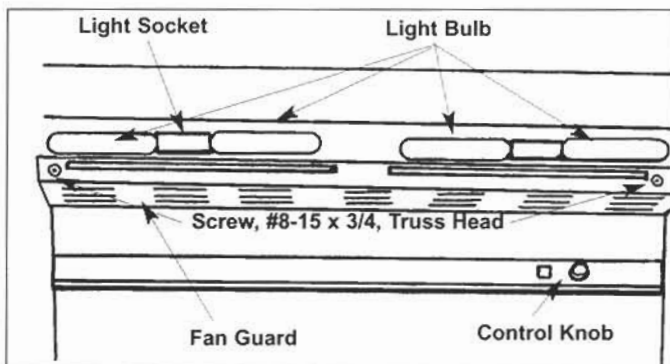

Figure 2-25. Fan Guard
2. Remove the two screws from front of fan guard and lift out (Figure 2-25).